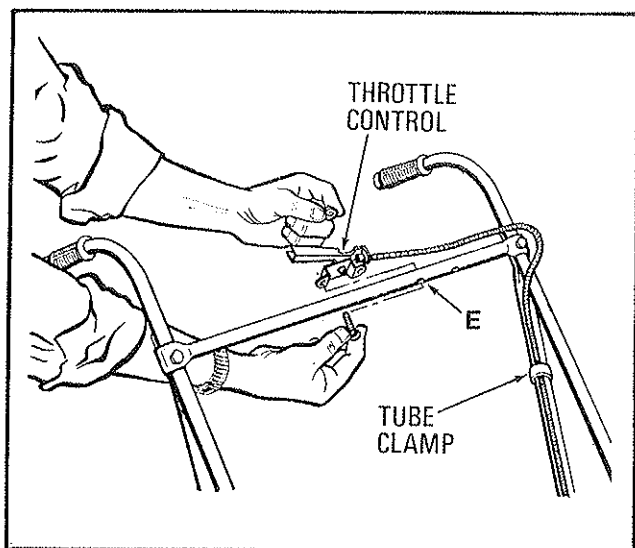

Figure 3. Throttle Control
D. Attach the throttle control lever bracket to the rear side of the top cross bar using the two oval head screws and two nuts from the small bag of parts. See Fig. 3.